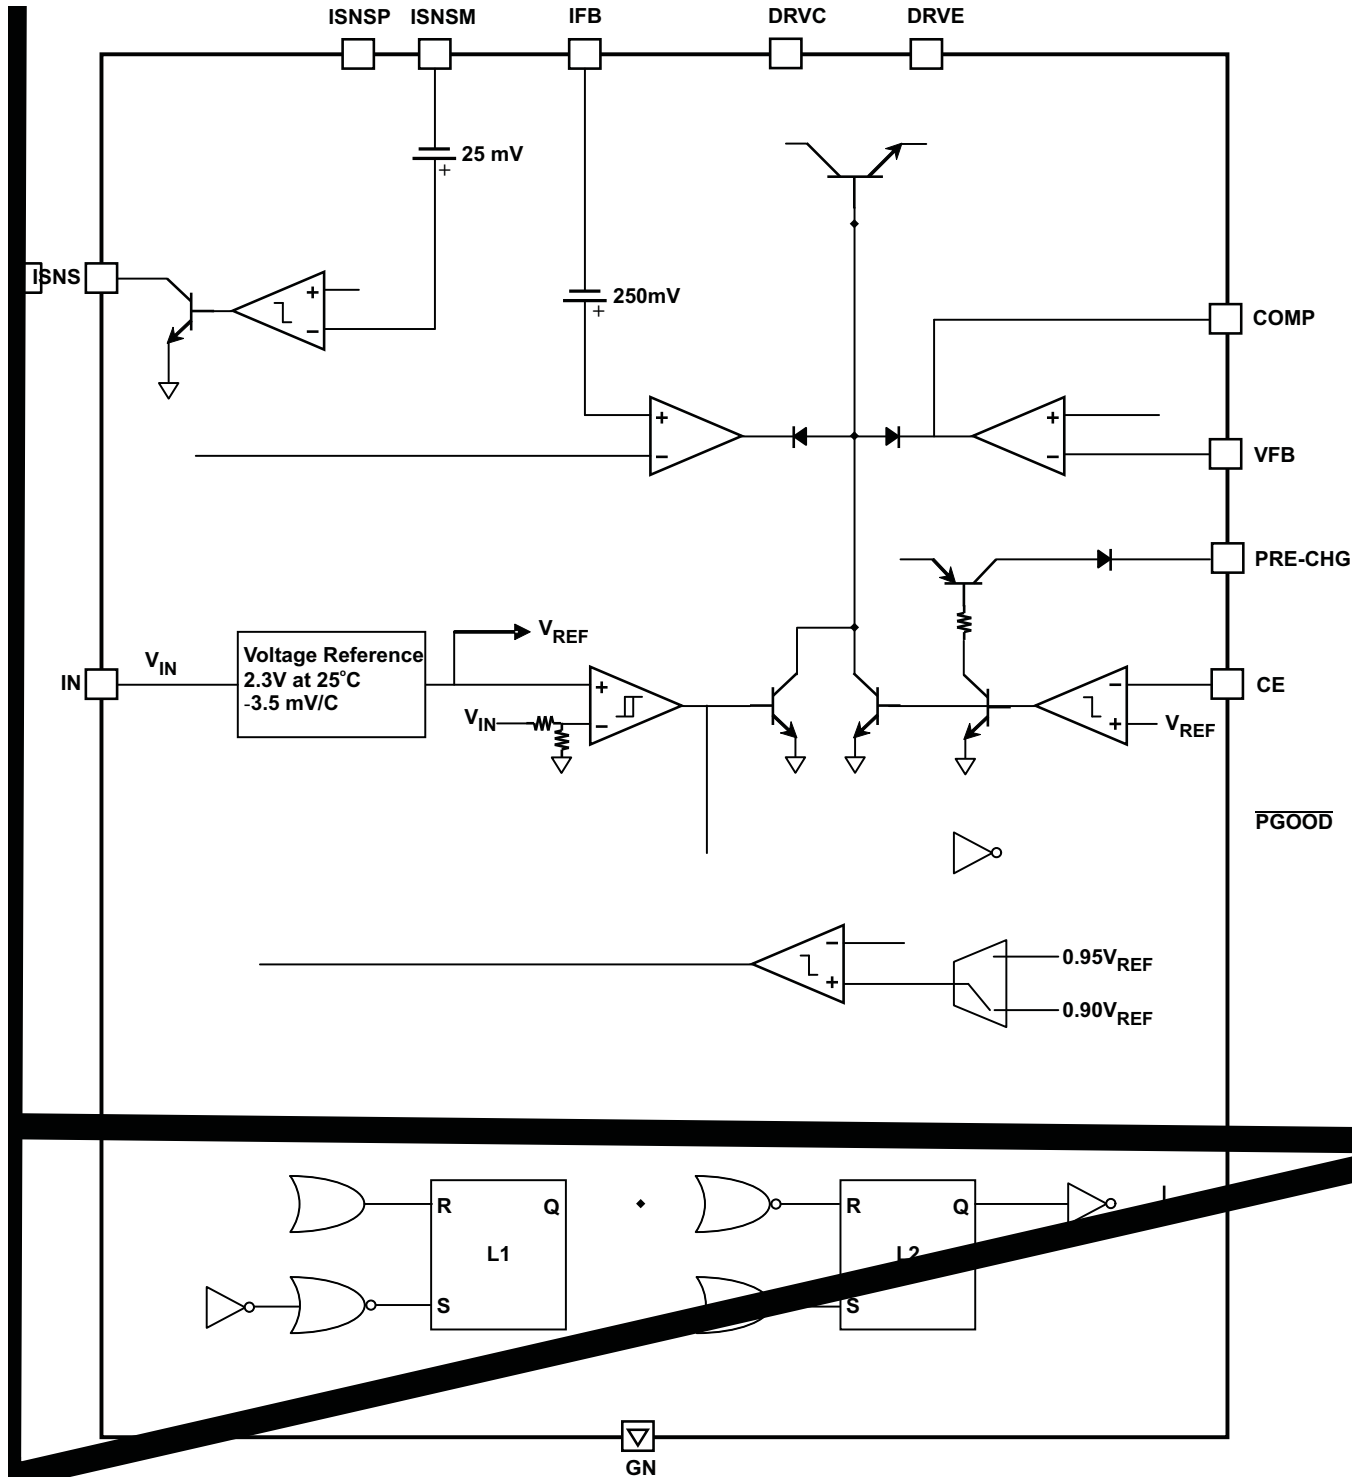

Figure 2. Simplified Block Diagram
Figure 4 shows the bq24450 configured as a simple dual-level float-cum-boost charger. Figure 5 shows the sequence of events that occur in a normal charge cycle. At (1) in Figure 5, power is switched ON. As long as the input voltage V_{IN} is below the undervoltage lockout threshold UVLO, Q2 is ON, disabling the driver transistor Q1. As the input voltage V_{IN} ramps up and rises above UVLO Q2 turns OFF. This enables Q1 and thus the external transistor Q_{EXT} . At the same time, Q7 turns ON, latch L1 is forced to RESET and latch L2 is SET (see Figure 2 for the internals of the Charging State Logic).